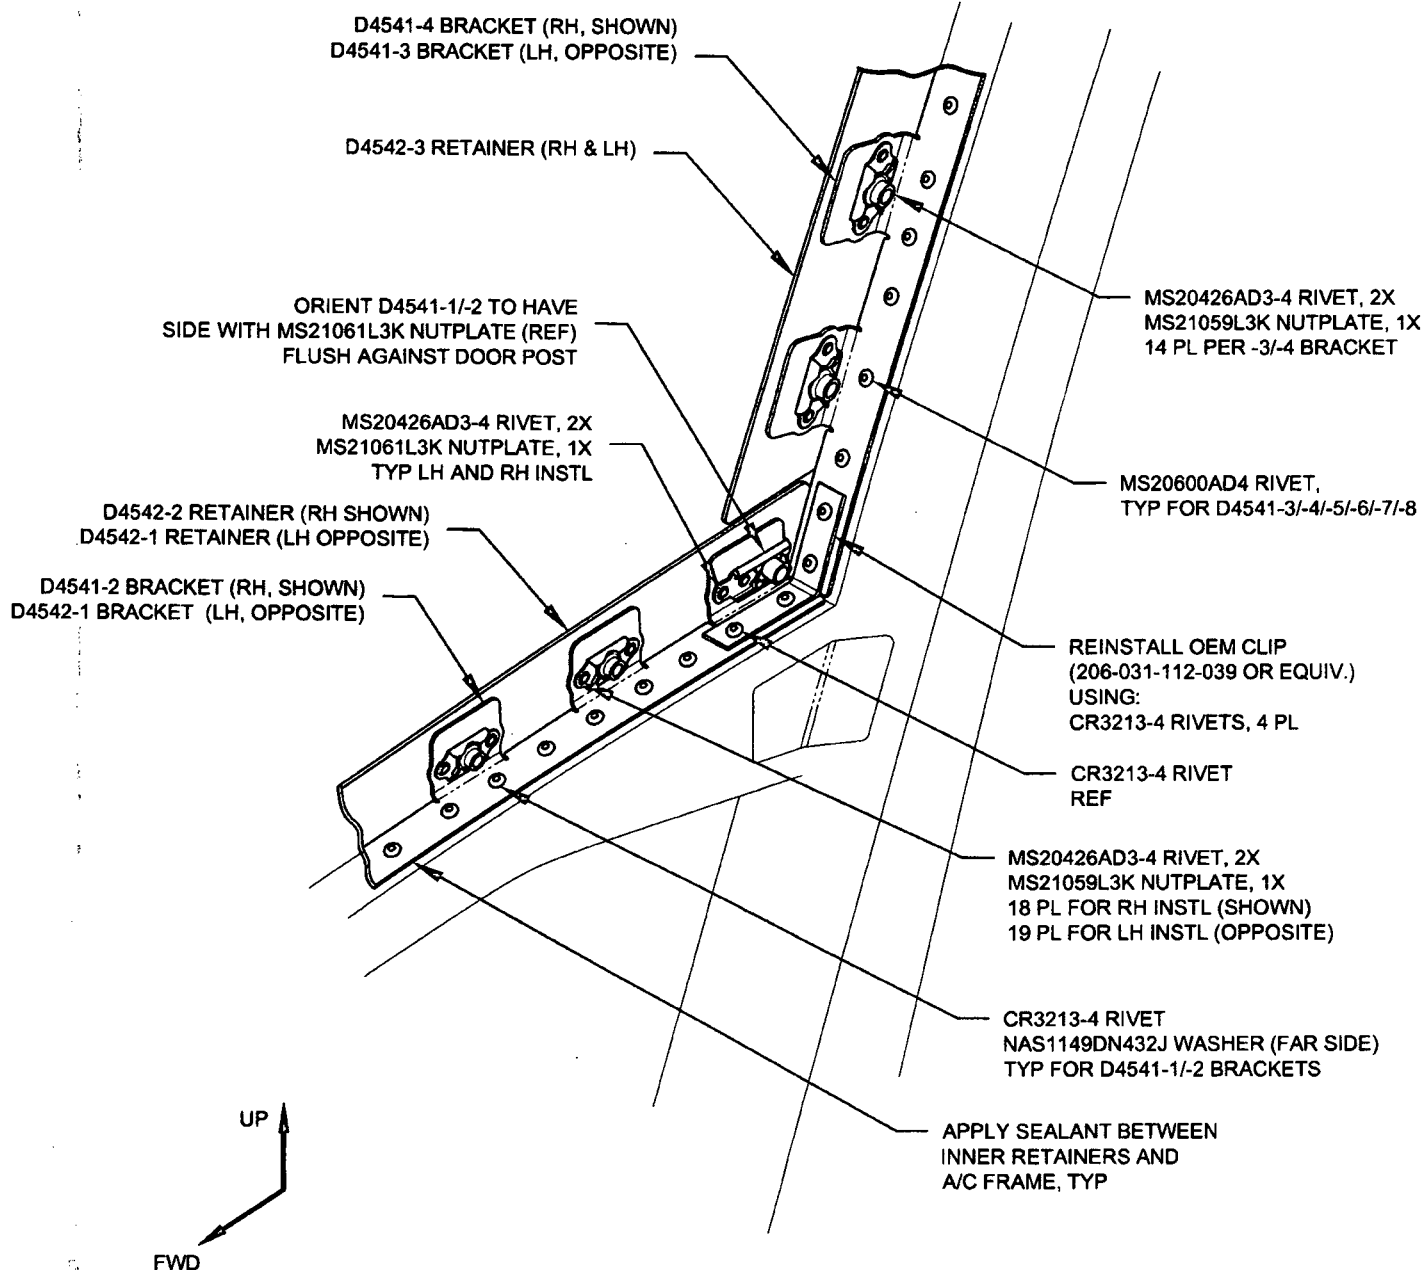

FIGURE 3-3
- Locate D4541-1/-2 Brackets along the bottom window frame flush against the door pillars. The Bracket should be oriented with the hole pattern for the MS21061L3K nutplate (the non-symmetric nutplate, ref) near the door post. See Figure 3-3 for reference.
- Locate D4541-3/-4 Brackets on the door pillars, above the -1/2 Brackets. See Figure 3-3.
- Relocate the 206-031-112-039 (or equiv.) clip removed at step 3.2(g) per Figure 3-3.
Install brackets wet with Sikaflex-241/-291 or Proseal 890 or MIL-S-8802 sealant between retainers and a/c frame. Fasten D4541-1/-2 Lower Inner Brackets with CR3214-4 (or NAS9301B or M7885/2) rivets and NAS1149DN432J (or 140-001-1 or AN960JD4 or equiv.) washers. Fasten D4541-X Brackets with MS20600AD4 rivets. Reinstall clip (206-031-112-039 or equiv.) with CR3213-4 rivets. See Figure 3-3 for reference.
3.4 Locate D4542-X Retainers onto the D4541-X Brackets as follows, see Figures 3-3 & 3-4 for reference: